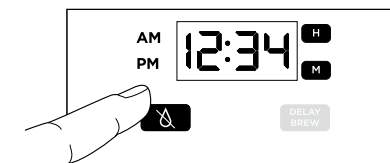

Fig. 13a
The system is equipped with an automatic drip stop. When the Drip Stop button (Fig. 13a) is illuminated, the drip stop is closed and no coffee or tea will flow out of the brew basket.
When brewing a half or full carafe, press the Drip Stop button (Fig. 13a) to pause the brew cycle and pour a cup. Promptly replace the carafe and press the Drip Stop button (Fig. 13a) again to complete the brew (Fig. 13a).
**NOTE:** If you forget to press the Drip Stop button (Fig. 13a) to resume the brew, the unit will pause the brew, and after 30 seconds it will give you a friendly audible reminder. After 5 minutes, the brew will be canceled.
- 1 Press and hold the Drip Stop button (Fig. 13a) until the clock display flashes either dFLt (default) or the previously specified time.
**NOTE:** When OFF is selected, the drip stop will remain open after a brew is complete. You can close the Drip Stop at any time by pressing the Drip Stop button (Fig. 13a) again. dFLt (default) is the machine's default time setting.
- 3 Press the Drip Stop button (Fig. 13a) to set the new time. Or wait 5 seconds, and the unit will beep, signifying that the new extension time has been set.